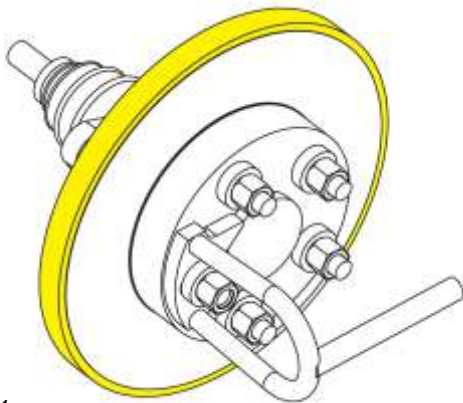

Fig. 61
6. Remove the rubber silencer from the brake rotor, Fig. 61.